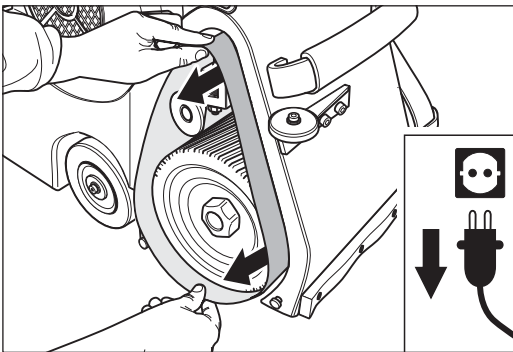

Fig. 66 Remove the sanding belt.
- 5 Remove the sanding belt from the tensioning roller and the sanding drum (Fig. 66).